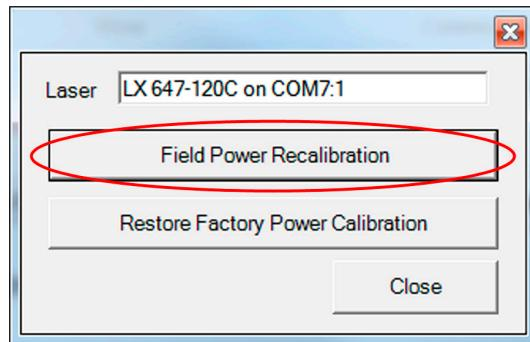

Figure 6-30. Field Calibration Button
2. When you click the **Field Power Recalibration** button, the dialog box shown in Figure 6-30 is displayed.